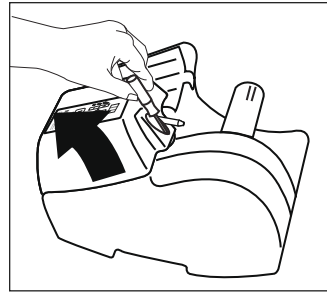

Figure 15
2. Open belt cover with a slotted or Phillips screwdriver. (See Figure 15)